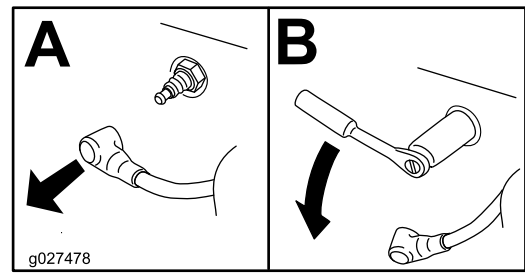

Figure 52
4. Remove the spark plug (Figure 52).